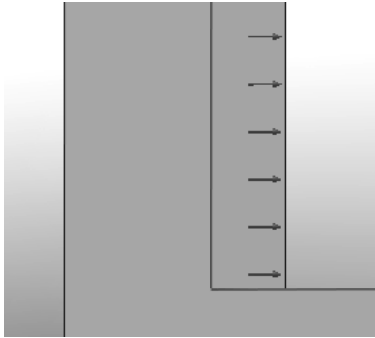
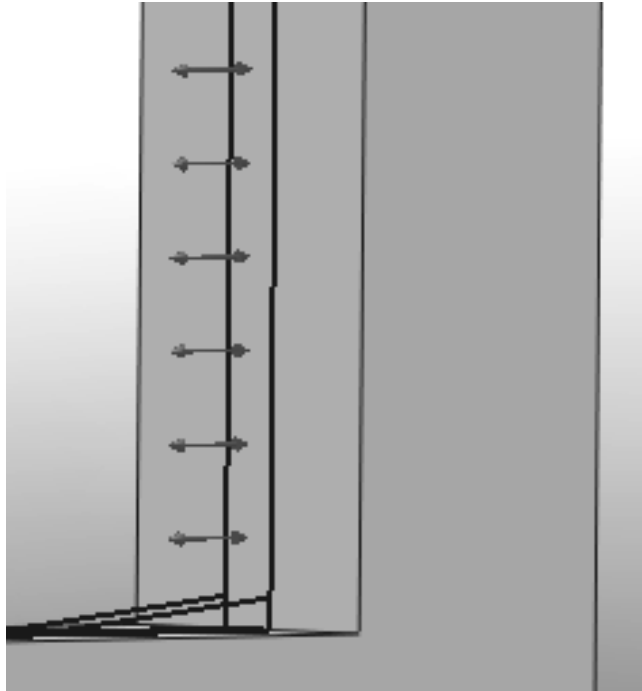

Figure 2.17d) Inlet velocity boundary condition indicated by arrows
Figure 2.18b) Outlet static pressure boundary condition
18. Red arrows pointing in the flow direction appears indicating the inlet velocity boundary condition, see figure 2.17d). Right click in the graphics window and select **Zoom to Fit**. Right click again in the graphics window and select  **Rotate View** once again to rotate the part so that the inner right surface is visible in the graphics window. Right click and click on  **Select**. Right click on  **Boundary Conditions** in the **Flow Simulation analysis tree** and select **Insert Boundary Condition...**. Click on the end surface on the outlet boundary. Click on the **Pressure Openings** button in the **Type** portion of the **Boundary Condition** window and select **Static Pressure**. Click OK  to exit the window. If you zoom in on the outlet boundary you will see blue arrows indicating the static pressure boundary condition, see figure 2.18b).